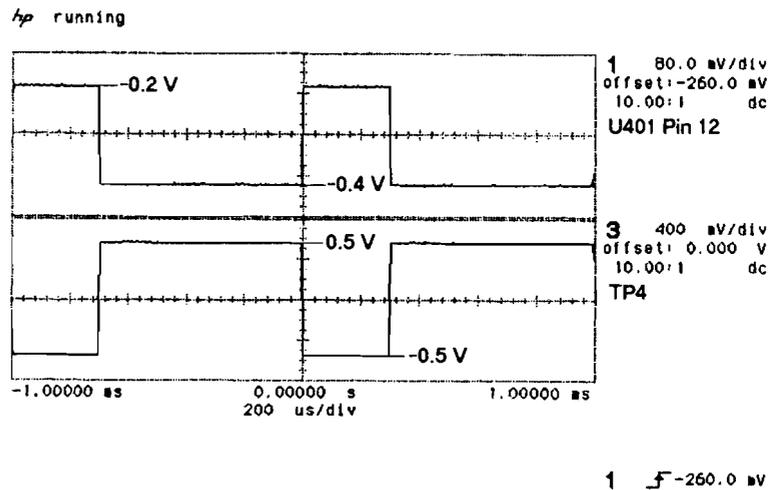

Figure 10.4-7. Shaper IC Input and Output (Square/Pulse)
- Use the oscilloscope to check the signals at pin 12 of U401 and TP4 against Figure 10.4-7.